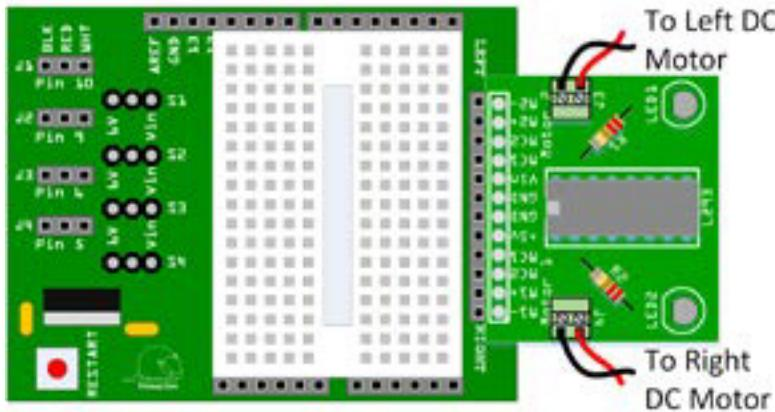

Figure 15-9. Inserting the red and black wires into female header
- Insert the red and black wires from each of the DC motors into the female header holding the H-bridge circuit board as shown in Figure 15-9. Be sure to insert the red wires opposite the M1+ and M2+ pins; insert the black wires opposite the M1- and M2- pins.